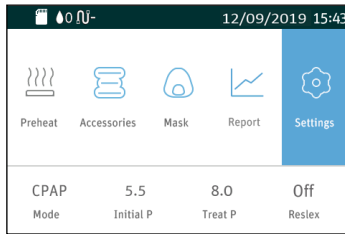

Fig. 15-1
- (1) Insert the Cellular Module into the device, and turn on the device. The device screen displays the Main Screen shown in Fig. 15-1.